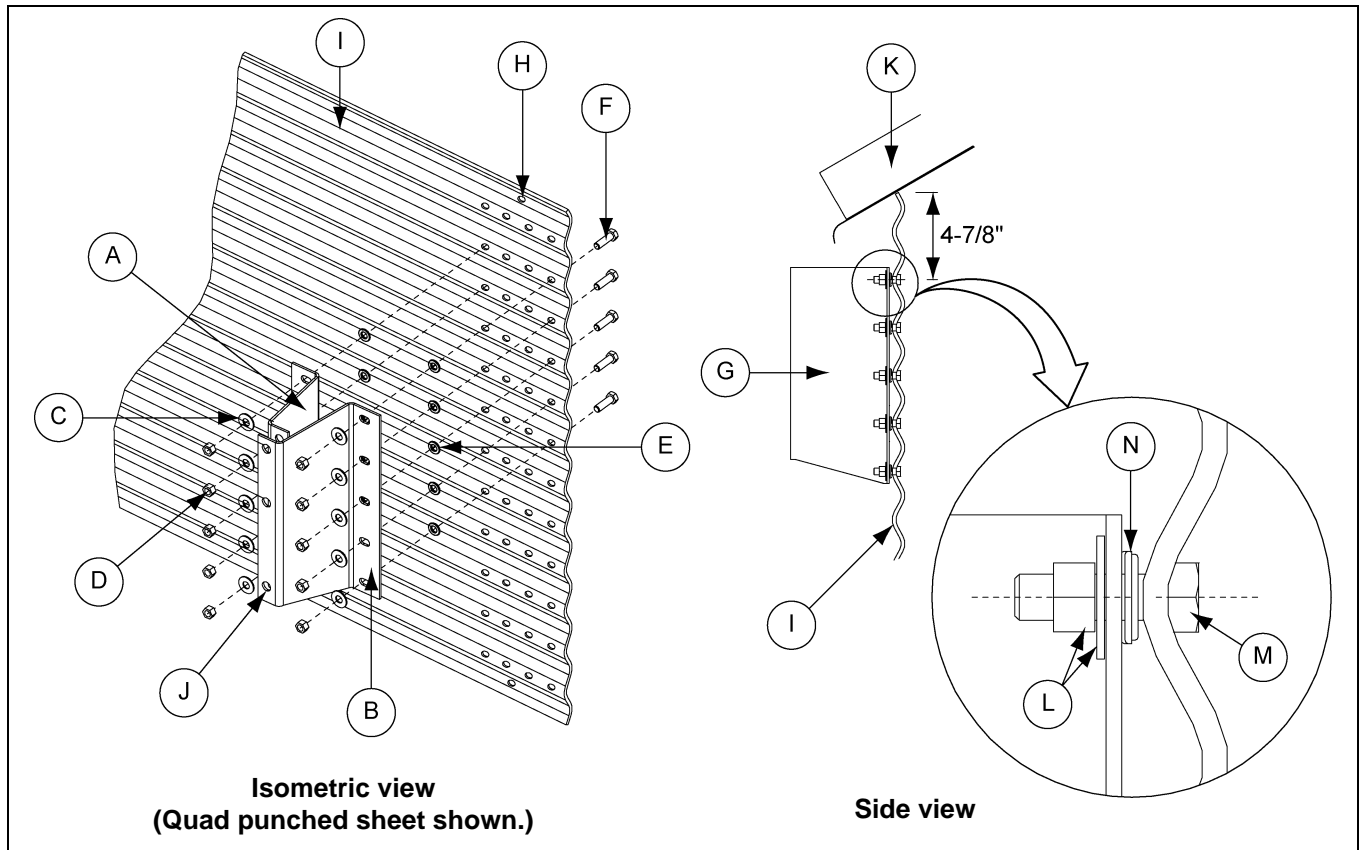

Figure 3A
Install the seam brackets (G) at each vertical seam in the top ring as shown in Figure 3A. When properly installed, the R.H. bracket (B) will overlap the L.H. bracket (A); the guard channel connection holes (J) will be in line with the last horizontal seam hole (H) and the top sidewall connection hole will be located 4-7/8" from the top of the sheet. (See note below for double and triple punched sheets.) Use 3/8" hardware for each connection.